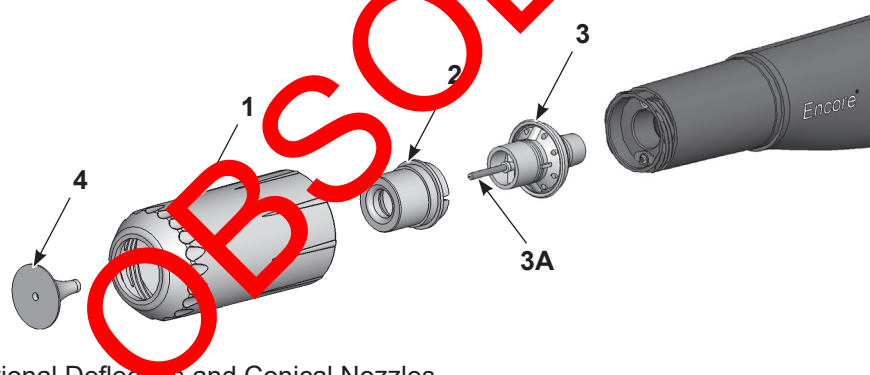

Figure 9 Changing Optional Deflectors and Conical Nozzles
1. See Figure 9. To change the deflector (4), gently pull it off the electrode assembly (3). If only changing the deflector, install the new one on the electrode assembly, being careful not to bend the electrode wire.
2. To change the entire nozzle, unscrew the nozzle nut (1) counterclockwise.
3. Pull the conical nozzle (2) off the electrode assembly.